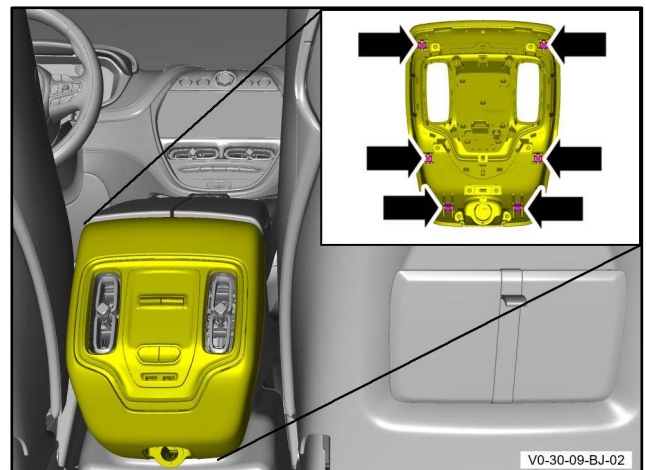

Figure 41
4. Install the end cap to the centre console (refer to Figure 41).